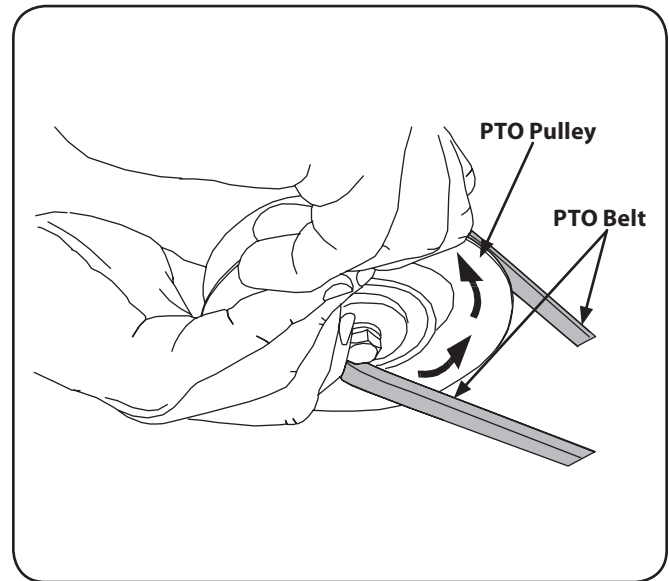

Figure 7-6
- While holding the belt and pulley together, rotate the pulley to the left. Continue holding and rotating the pulley and belt until the belt is fully rolled into the PTO pulley. See Fig. 7-6.